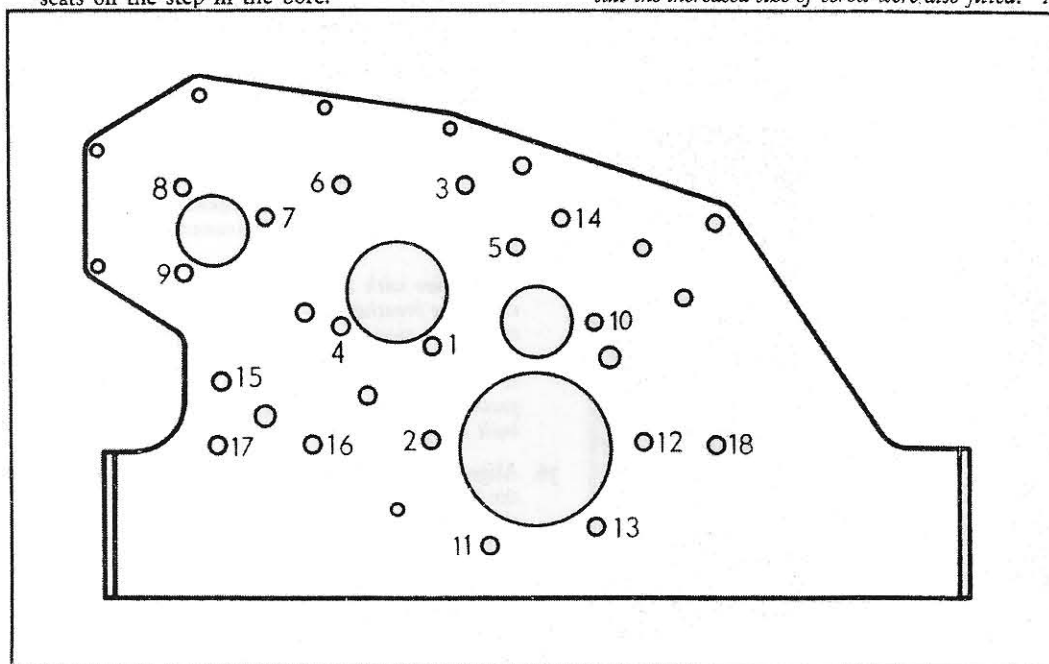

Fig. 24.
30. Fit a new gasket to the front face of the cylinder block and replace the front mounting plate on its two dowels. Replace the front mounting plate screws and new tab washers. Tighten the screws using the sequence shown in Fig. 24 to the correct torque :—
35. Fit a new timing cover gasket, and replace the timing cover on the two dowels in the engine mounting plate. Secure in position with the appropriate screws and spring washers, and tighten to a torque of 12 to 15 lbs. ft. (1.658 to 2.073 kg.m.) tightening first the screws numbered 10 to 18 in Fig. 24, in the sequence shown.